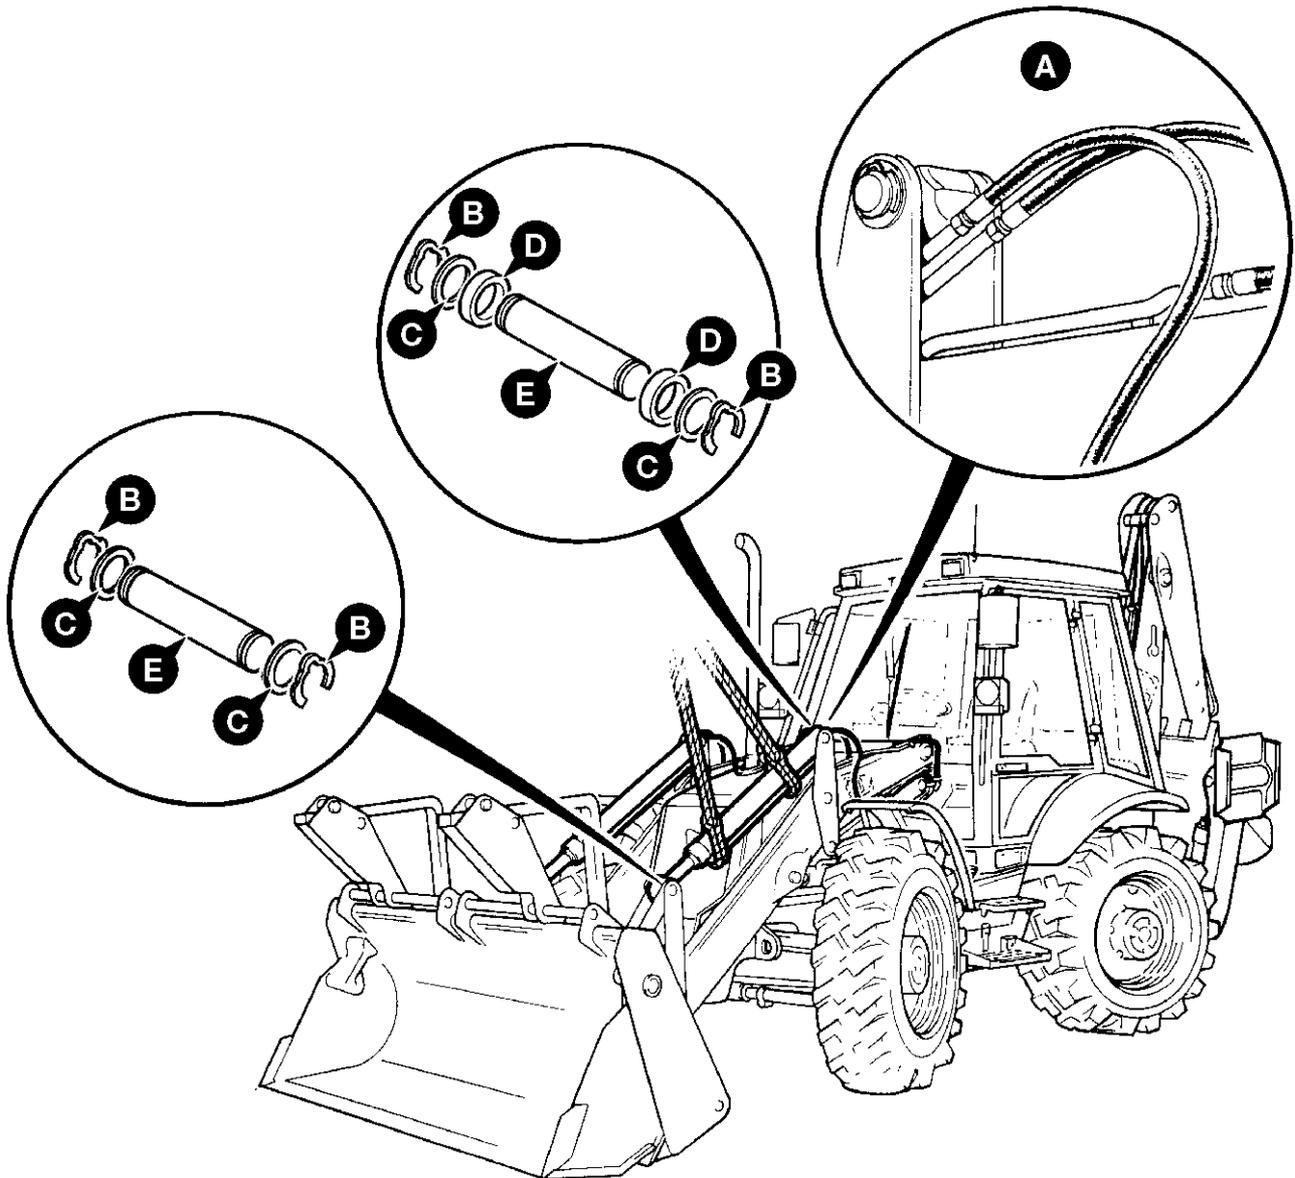

Fig 219. Loader Shovel Ram
- 2 → Fig 219. (E-260). Rest the shovel flat on the ground as shown.